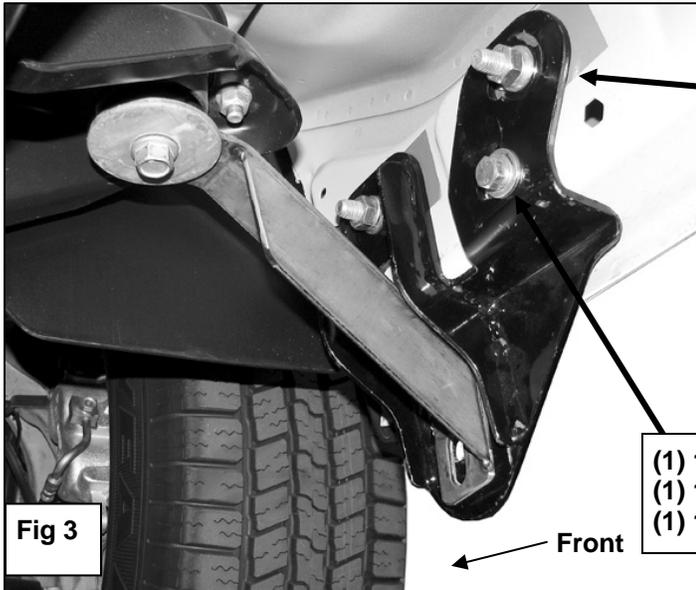

Fig 3
- Select the passenger side front Mounting Bracket. Position the Mounting Bracket onto the installed Bolt Plates. Secure it with (2) 12mm Flat Washers, (2) 12mm Lock Washers and (2) 12mm Hex Nuts, **(Figure 3)**. Do not tighten at this time. Rotate the Bolt and Nut plate until the Nut end lines up with the remaining hole in the Mounting Bracket and body. Thread (1) 10mm
7. Remove the passenger side front factory body bolt. Select the passenger side Front Support Bracket. Insert the factory body bolt through the Support Bracket and up into its original position, **(Figure 3)**. Line the other end of the Support Bracket up with the oval hole in the Front Mounting Bracket. Snug but do not tighten hardware.